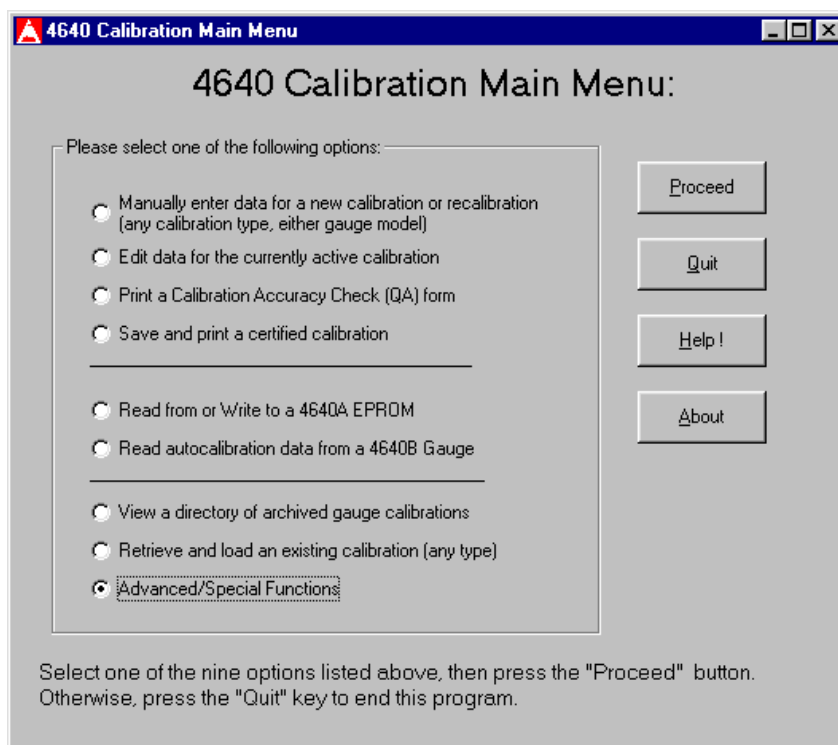

Figure 5–1. 4640 Calibration Main Menu
2. An introductory splash screen is displayed for approximately five seconds, followed by the **4640 Calibration Main Menu**, as shown in Figure 5–1.